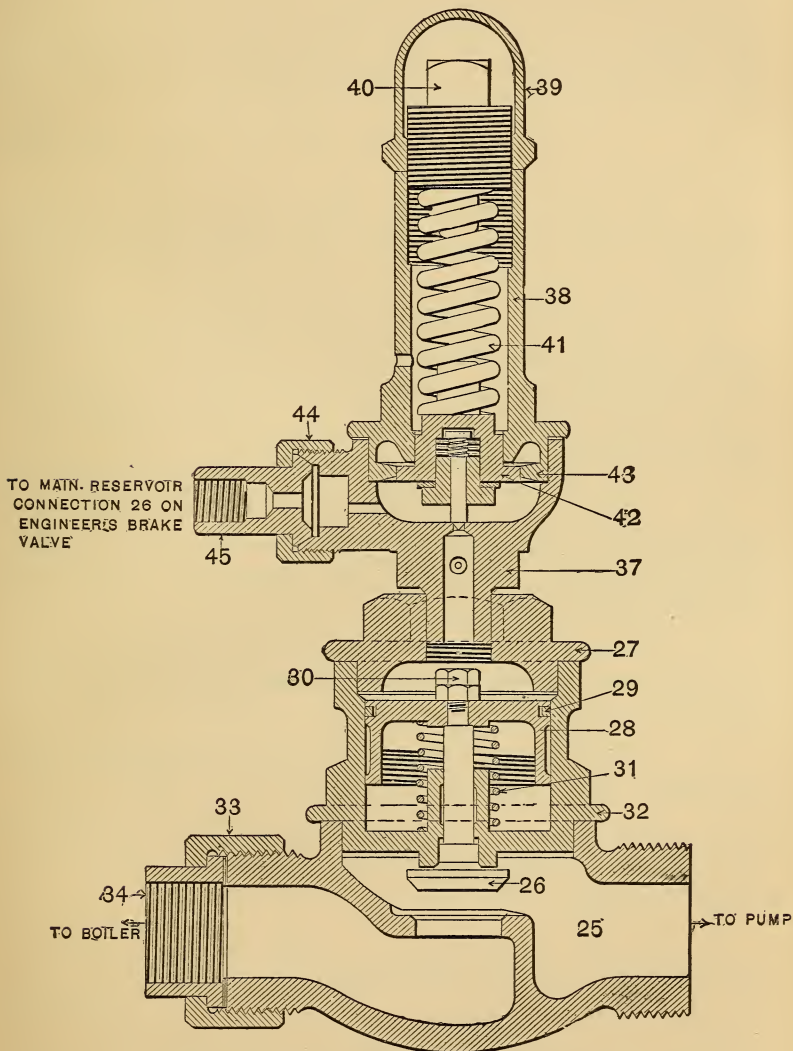

FIG. 42.—IMPROVED PUMP GOVERNOR.
Q. Explain the duty of spring 41 (Fig. 42).
A. It allows air pressure to reach the top of piston 28 (Fig. 42), forcing it down and closing valve 26.
Q. What would be the effect if the release port 37 (Fig. 42) were closed by dirt?